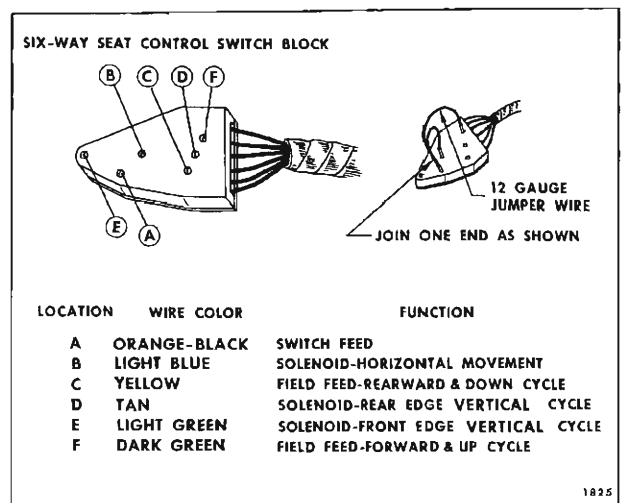

Fig. 16-37—Six-Way Seat Switch Block in Seat Side Panel
**NOTE:** In the following operations which specify the seat control switch to be actuated, a switch that has been checked for proper operation may be connected to the switch block. If a switch is not available, a three-way jumper wire can be made to perform the switch function. The jumper wire and the switch locations to be connected to obtain a specific movement of the seat are shown in Figures 16-37 and 16-38. If a jumper wire is used, letter the locations on the switch block as indicated in the illustration. Details outlining the
To make jumper wire, obtain two pieces of #12 gauge wire, each 4-1/2" long, join one end of each wire as shown in Figure 16-37. The joined end can be inserted in the feed location in the switch block; one of the remaining ends can be inserted into one of the field locations in the switch block; the other end can be inserted into one of the solenoid locations.
**On Bodies with Switch in Seat Side Panel (See Fig. 16-37)**